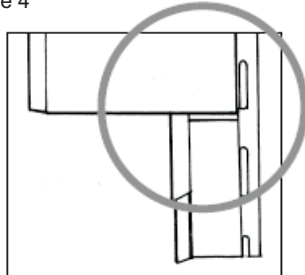

Figure 6
- 3) Cut and remove this area. Continue the crosscut to the edge of the lineal. widen this cut to make a slit about 1/16" wide. (Figure 6)